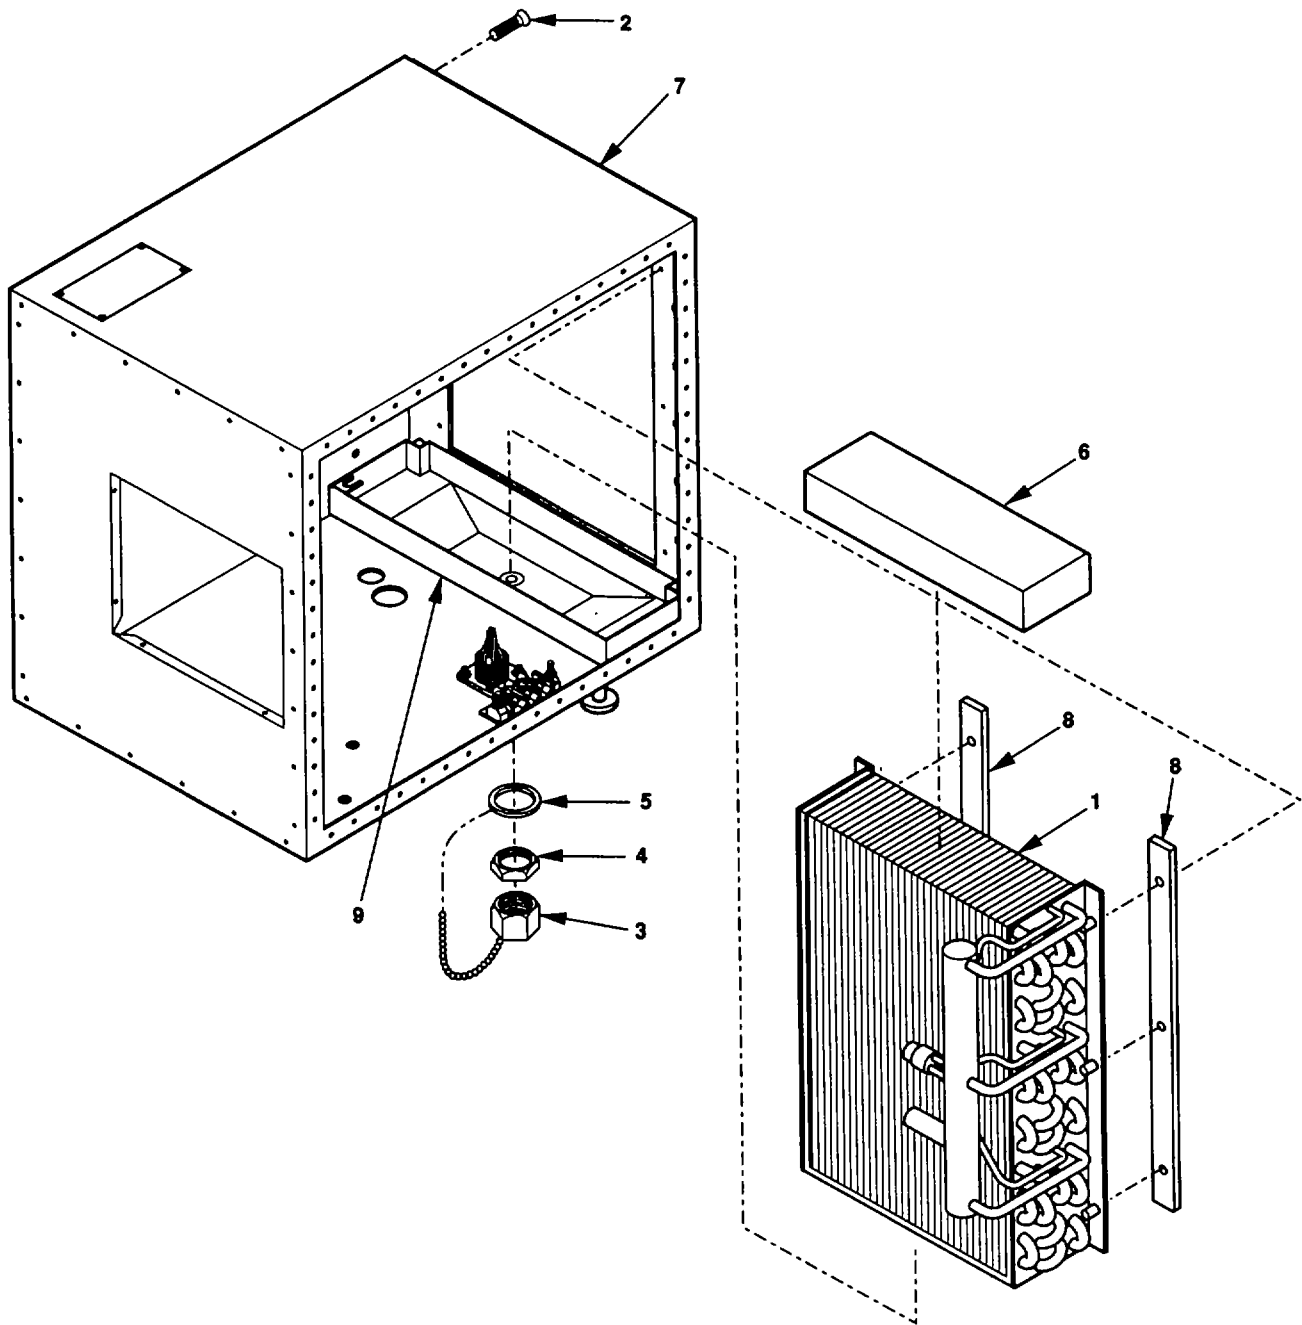

Figure 5-25. Evaporator Coil Maintenance.
- (1) Clean debris, dirt, or other obstructions from evaporator coil (Figure 5-25, 1).
- (2) Using fin comb, straighten any bent fins on evaporator coil (1).